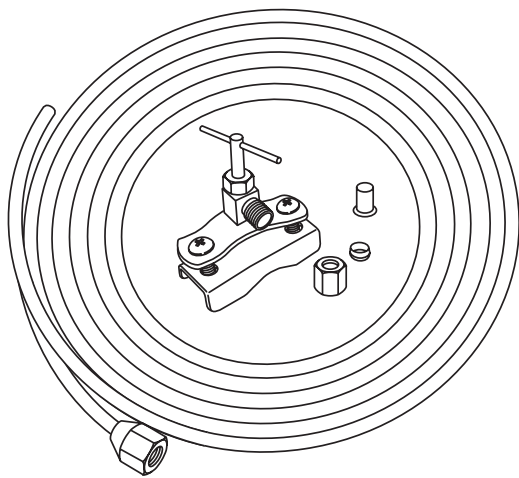

Figure 9
- Use a 1/4 inch OD copper line to connect the water supply to the solenoid valve. **This is not supplied with the refrigerator (Figure 9).**